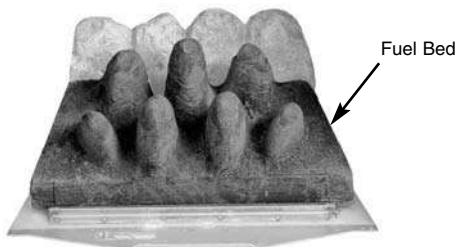

Fig. 21
2. Place the main fuel bed on to the middle section of the metal burner tray. It is important that the front edge of the fuel bed is located behind the burner strip (Fig. 21).